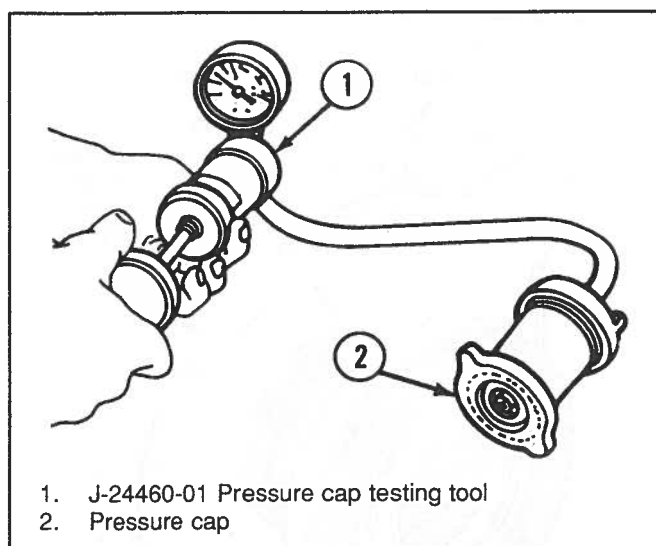

Figure 10-4. Pressure-Cap Tester
5. Using a cooling-system-pressure tester (similar to the one shown in Figure 10-4), test cap to be sure that it releases at the proper pressure and does not leak. (Refer to instructions which accompany the tester for the correct test procedure.) The cap must relieve pressure at 7 psi (48 kPa) and must hold rated pressure for 30 seconds without going below 5 psi (34 kPa). Replace cap if it fails to fall within these limits.